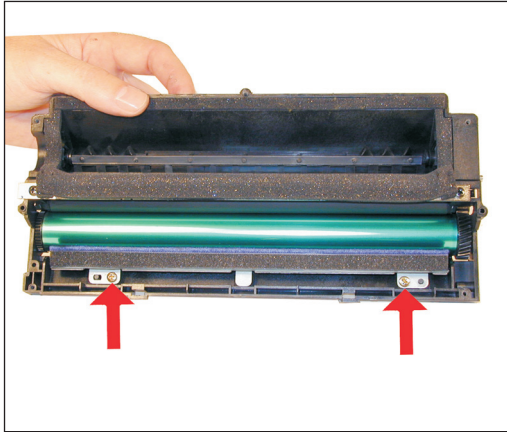

Figure 22
19) Install the PCR cleaner Assy. and two Gold Colored screws. See Figure 22